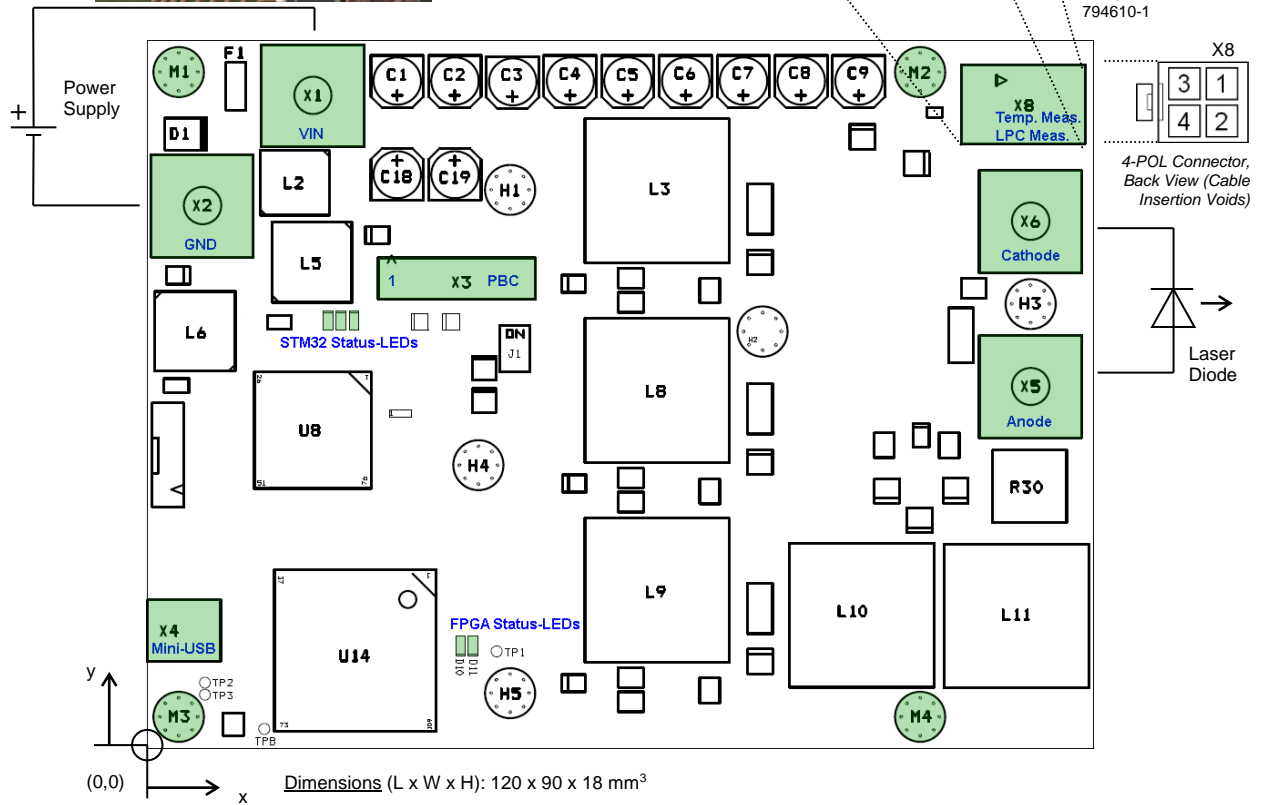

Figure 1. Schematic top view of an LDD-1121-based laser diode driver. Elements relevant to the end-user are highlighted.
- Locate the four mounting holes M1-M4 (see Figure 1)
- Either the green or the red STM32 Status-LED (see Figure 1) should be blinking / lit. The status of the blue LED can be ignored